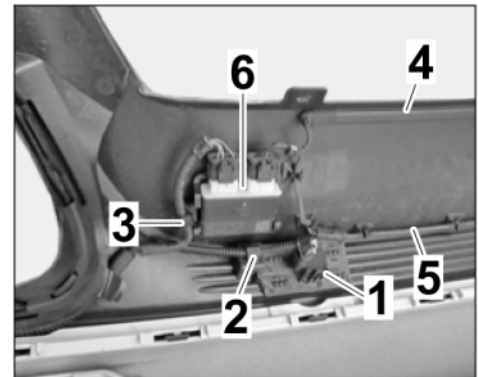

Figure 6
- 2.1 Remove ParkAssist sensor (⇒ *Figure 6*) from rear skirt. ⇒ *Workshop Manual '917519 Removing and installing ParkAssist sensor'*
- 2.1.1 Unclip clip (⇒ *Figure 6 -2-*) from ParkAssist sensor holder.
Unclip clip (⇒ *Figure 6 -3-*) from VIP control unit holder.
Carefully detach antennas (⇒ *Figure 6 -4 and 5-*) from rear skirt.
Unclip VIP control unit (⇒ *Figure 6 -6-*) from holder.